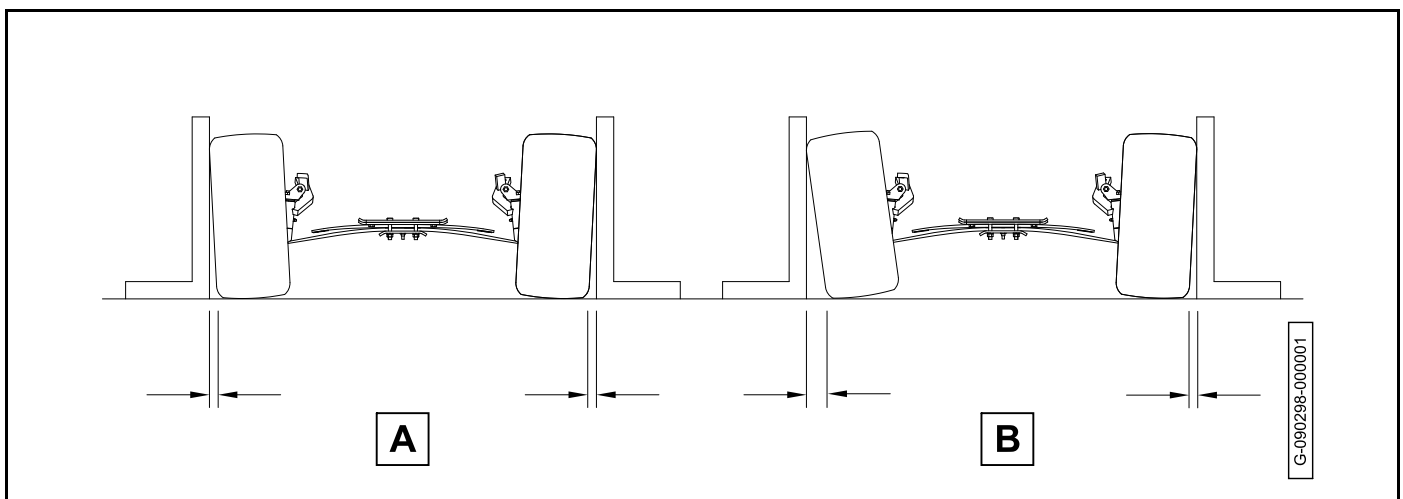

Figure 7-7 Check Camber
2. Check each front wheel with a framing square. At the floor, there should be an equal amount of space (A) between each tire and the framing square (**Figure 7-7**).
3. If there is not an equal amount of space (B) between each tire and the framing square (**Figure 7-7**), go to step 4.